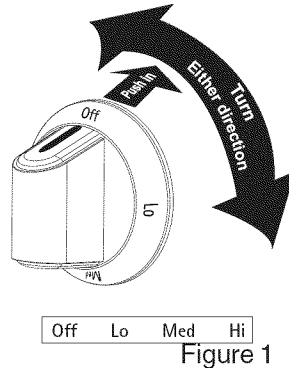

Figure 1
- To set the control, push in and turn the knob. (Figure 1) The temperatures are approximate, and are designated by HI, MED and LO. However, the control can be set at any position between HI and LO for different levels of heating.